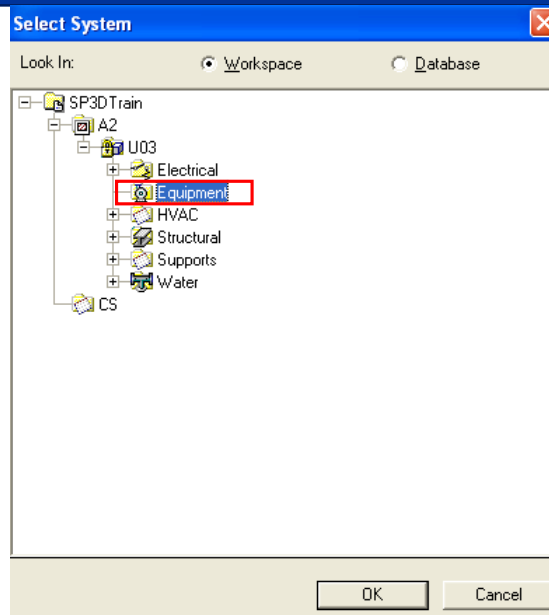

Figure 10: Select System Dialog Box
11. Select **A2 > U03 > Equipment** system, as shown in Figure 10, to indicate where the object will be placed. Then, click **OK**.